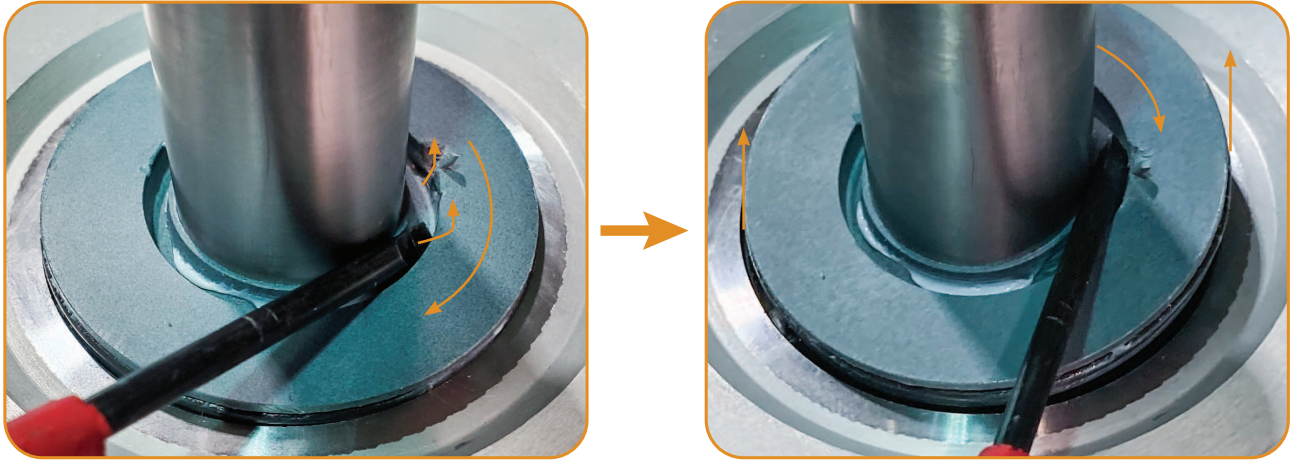

Figure 3-12: Shaft seal removal
2. Carefully work around the seal, prying slowly until the seal can be grasped by hand and removed. (Figure 3-12)